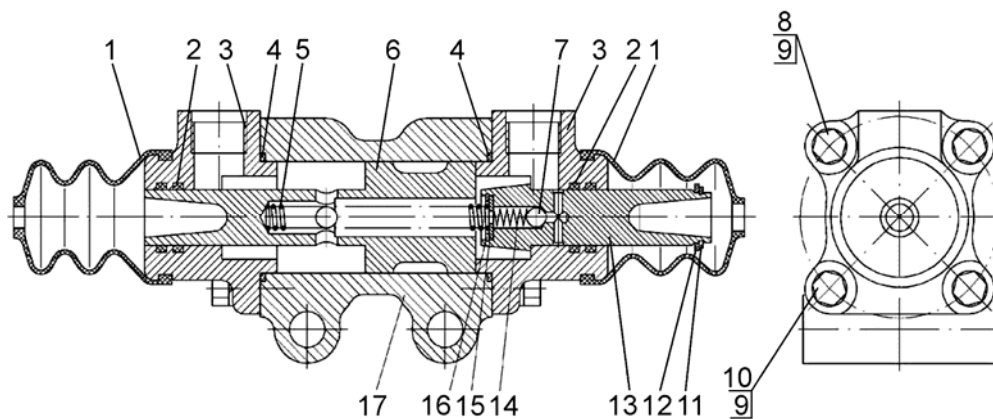

Figure 4.11 Hydraulic booster
e) **disassembly hydraulic booster** (Figure 4.11); to do this;